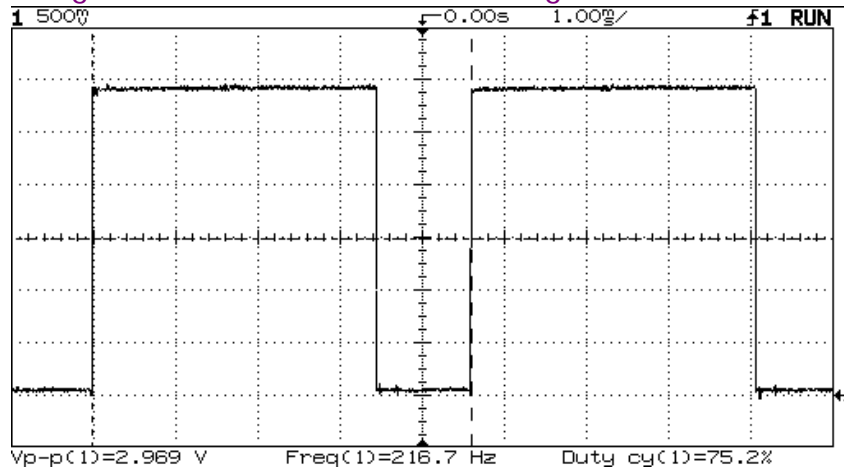

Fig. 4.8 PRE\_ON
6. **PCN\_ON** (Control signal from Superchip which switches 2.85V through to PCN\_PRE\_ON). See figure 4.8.